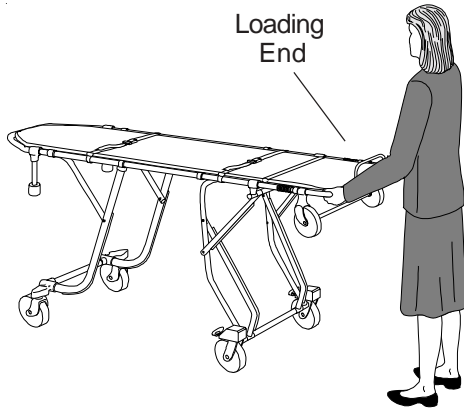

Figure 3 - One Operator Lowering Cot
- Stand at **loading end** of cot and grasp main frame corners with an underhand grip (Figure 3).